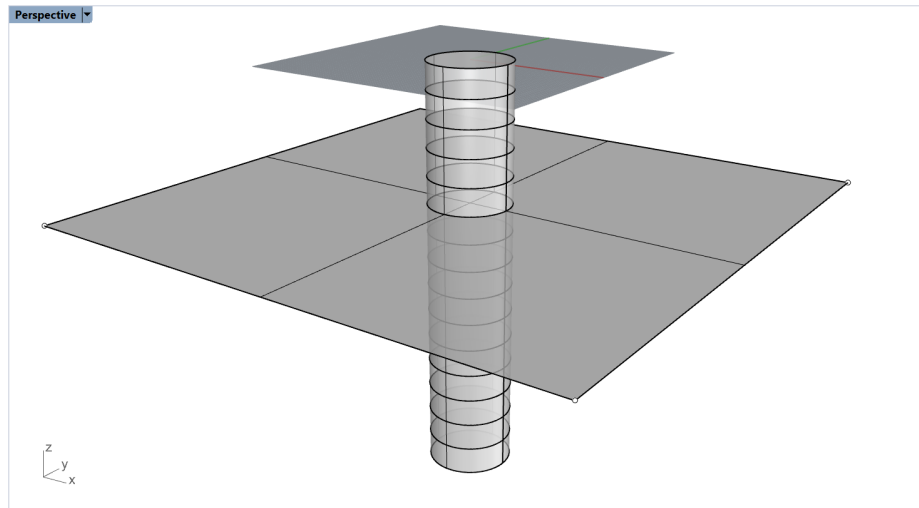

Figure 12: Construction of a shaft and a plane separating two layers of soil
9. Connect all points by a horizontal plane by typing the **_Plane** command and start dragging a plane from one of the “side” points (the first or third in the list above). The objects should look as shown in Figure 12.